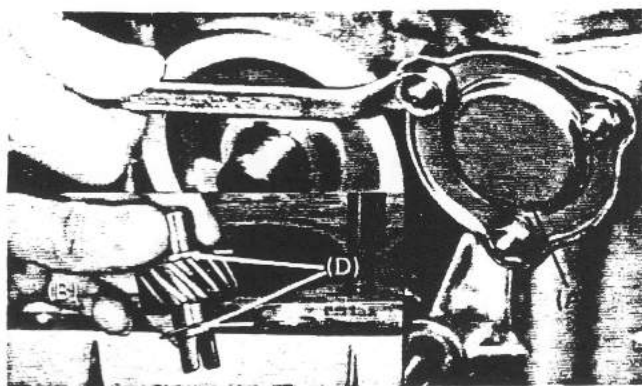

Fig. 162
If the measurement of the end play is not within the range of 0.002 ~ 0.004 in. (0.05 ~ 0.1 mm), remove the drive gear cover (C), and pull out the thrust washer (D) and driven gear shaft. Adjust the end play by using thrust washers as specified below: (Figs. 162 and 163)